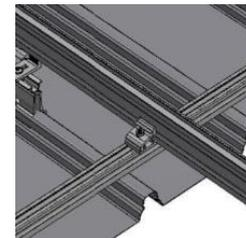

Fig 4.1.1B: Cross connector to connect between rails
- IV. The Pro35 rail is connected to the FixZ Pro Rails using our rapid cross connector adapter as shown in Figure 4.1.1B.